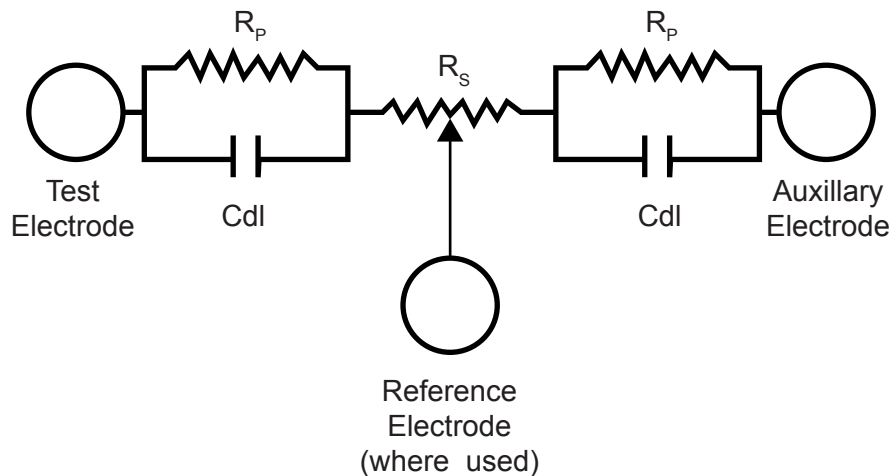

Figure A-1 Equivalent Circuit of LPR Probe
From Equations (1) and (2), obtaining results from the LPR technique would seem to require only instantaneous readings of resistance. In practice, however, the determination of polarization resistance is complicated by a capacitance effect at the metal-fluid interface (double-layer capacitance). Figure A-1 is an equivalent electrical circuit of the corrosion cell formed by the measuring electrodes and the fluid, showing the importance of R_s and double-layer capacitance effects.